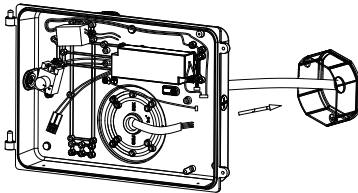

Fig. 1-3A
2. Loosen the plug on the bottom plate, then put the wiring through the hole, screw the bottom cover with junction box on the wall. (Fig. 1-3A&B)